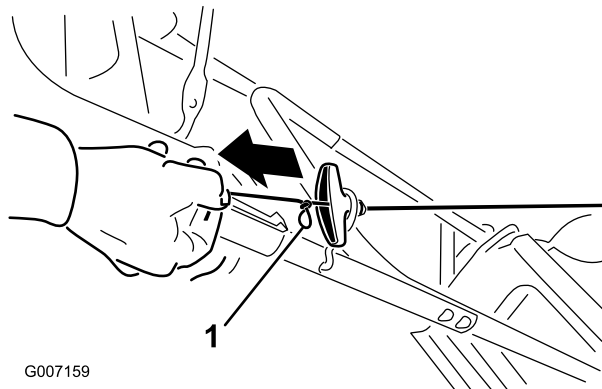

Figure 5
2. Untie the slip knot in the starter rope (Figure 5).